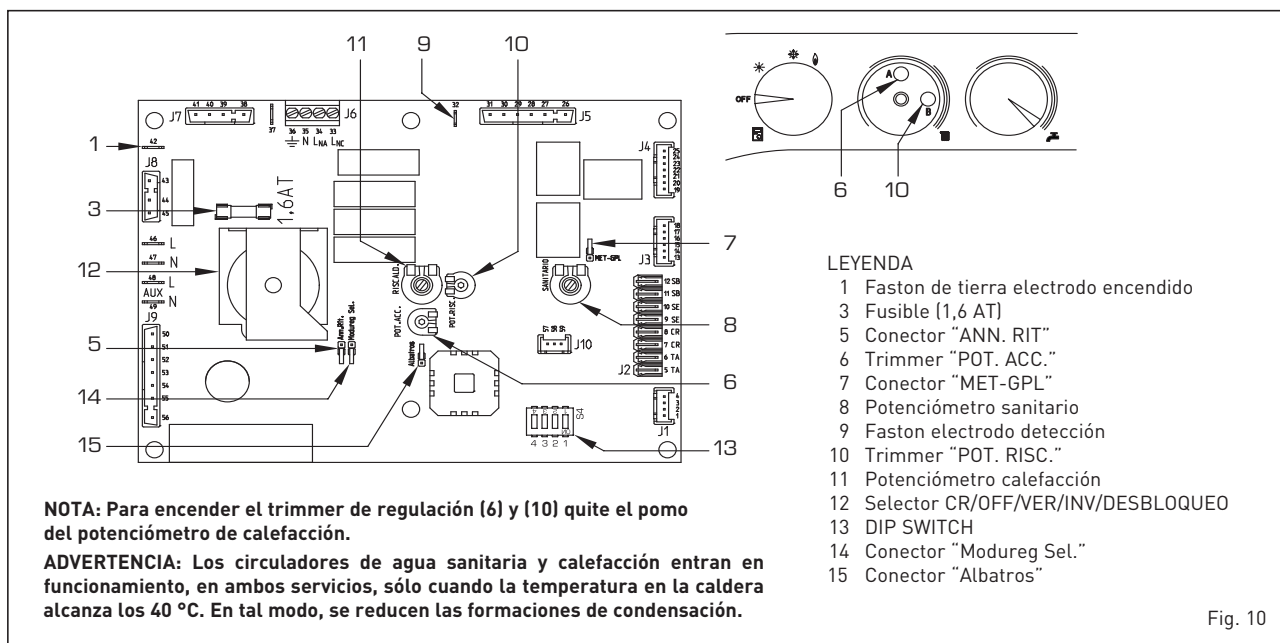

Fig. 10
- **Trimmer "POT. RISC."** (10 fig. 10)
- **Trimmer "POT. ACC."** (6 fig. 10)
- **Conector "MET-GPL"** (7 fig. 10)
- **Conector "ANN. RIT."** (5 fig. 10)
- **DIP SWITCH** (13 fig. 10)
- **Conector "Modureg Sel."** (14 fig. 10)
- **Conector "Albatros"** (15 fig. 10)